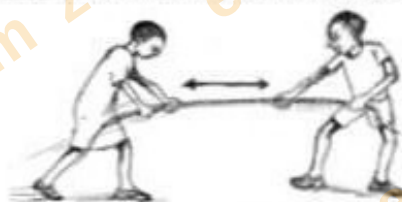

Figure 9
- 29 State the type of force illustrated by the arrows shown in figure 9 below.